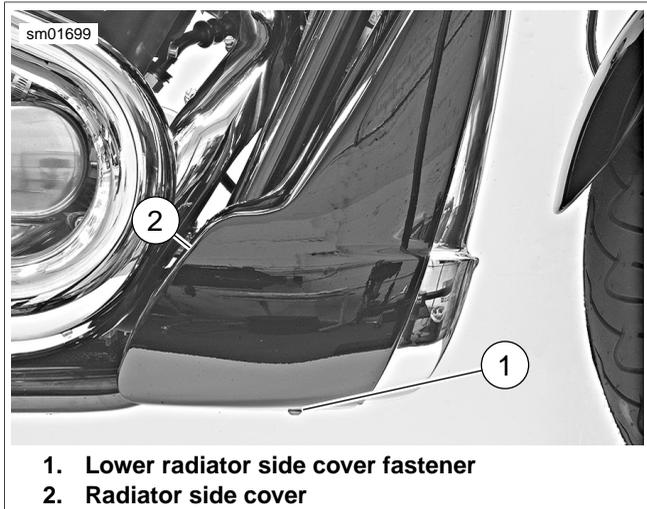

Figure 1-10. Lower Radiator Side Cover Fastener (typical) (mid mount control right side shown)
2. See Figure 1-10. Remove lower radiator side cover fastener.
4. See Figure 1-10. Install radiator side cover fastener and tighten to 3-4 Nm (27-35 **in-lbs**).